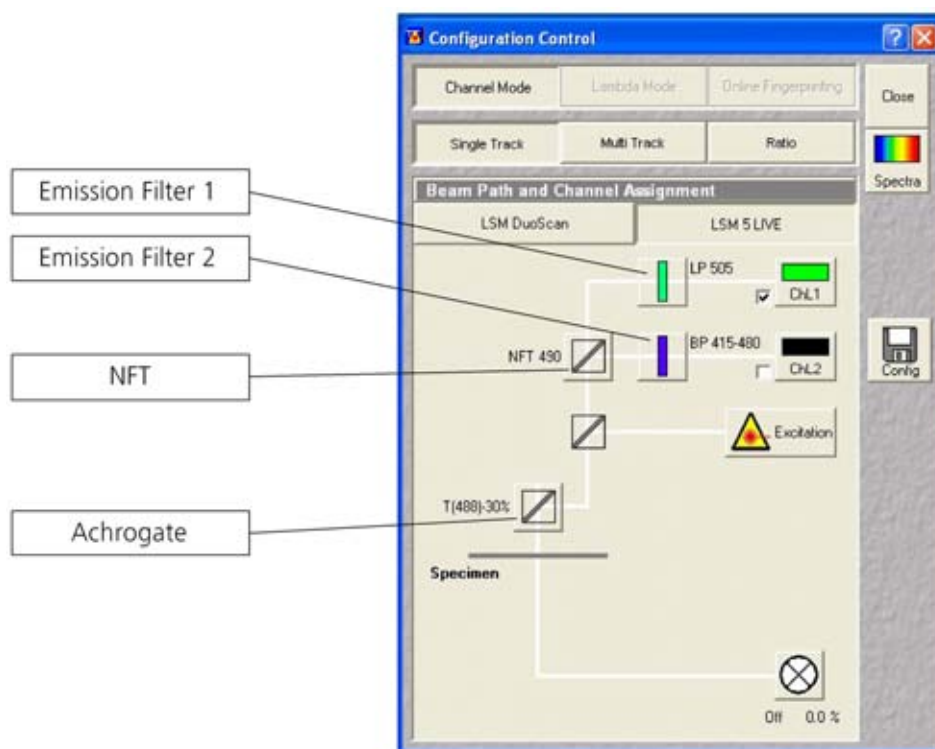

Fig. 4-38 Configuration Control window
The assignment of the numbered emission filters (1-2), NFT secondary dichroic beam splitters and Achrogate main beam splitters in the **Beam Path and Channel Assignment** panel is shown in the **Configuration Control** window (Fig. 4-38). The numbers of the emission filters correspond to those of the channels lying behind (PMT photomultipliers).
- On the **Beam Path and Channel Assignment** panel, click on the Achrogate main beam splitters  (see Fig. 4-38).